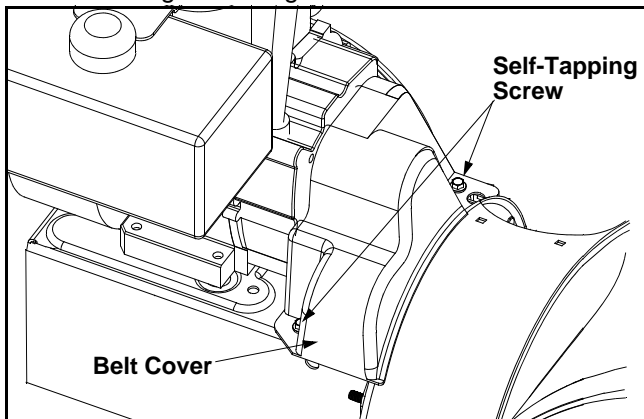

Figure 27
- Remove the plastic belt cover on the front of the engine by removing the two self-tapping screws. See Figure 27.